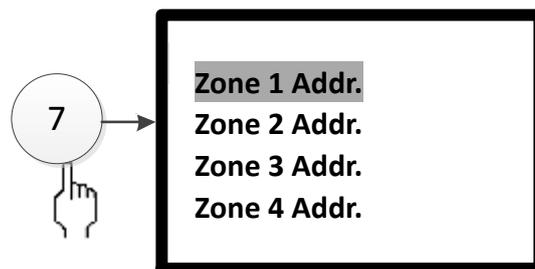

Fig. 3-34
Enter the screen as shown in Fig. 3-34 by pressing number 7 or moving cursor to select ⑦.